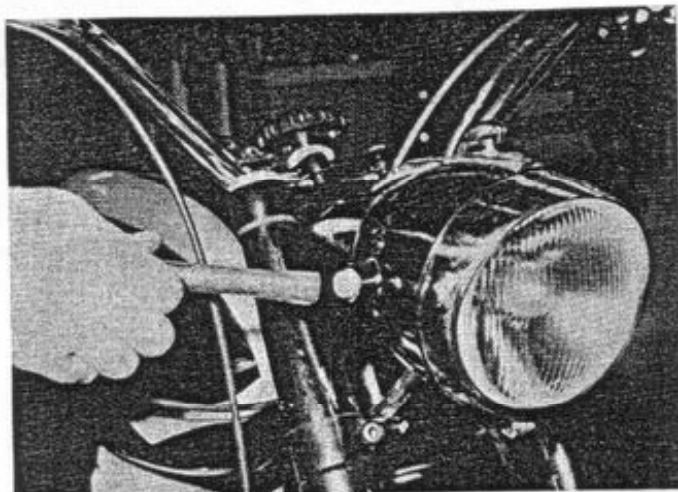

fig. 25
k. Adjust headlight to the correct position. (Fig. 25).